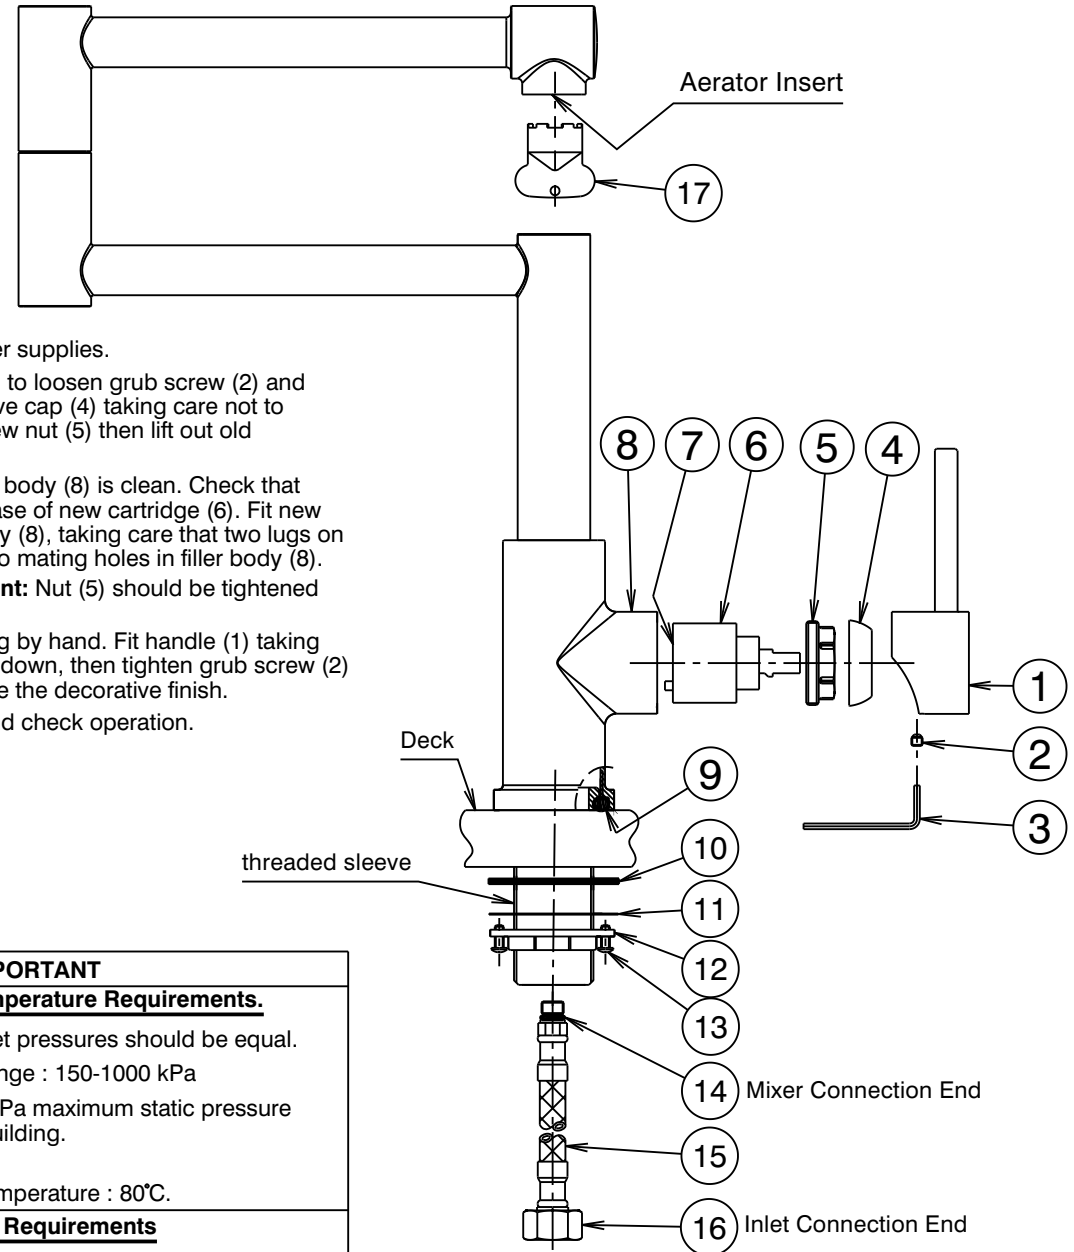

Fig.1
- 1) Ensure seal (9) is installed into groove in base of filler body (8).
- 2) **Flexible Tail Mixer Connections:** Apply suitable lubricant to 'O' rings (14). Fit flexible tail (15) (with red indication) into hole marked with a 'H' in underside of filler body (8). Hand tighten the tail, ensuring the 'O' ring (14) has fully entered the sealing bore to provide a watertight joint. Fit other flexible tail (with blue indication) into remaining hole in a similar manner.
- 3) Insert the inlet connection end (16) of each flexible tail (15) through the hole in the deck. Insert threaded sleeve of filler body (8) into deck hole. Fit rubber washer (10), followed by metal washer (11), over the threaded sleeve of the body (8) as shown (Fig. 1). Screw the nut (12) onto threaded sleeve until it contacts metal washer (11) and the rubber washer (10) has contacted the underside of the deck. Tighten two screws (13) equally until filler assembly is clamped firmly to the deck.
- 4) **Flexible Tail Inlet Connections:** Connect the flexible tails (15) to the hot and cold isolating stop taps, hand tighten the connecting nut (16) until rubber cone contacts the sealing face of the connection end, then tighten a further one turn to provide a watertight joint.